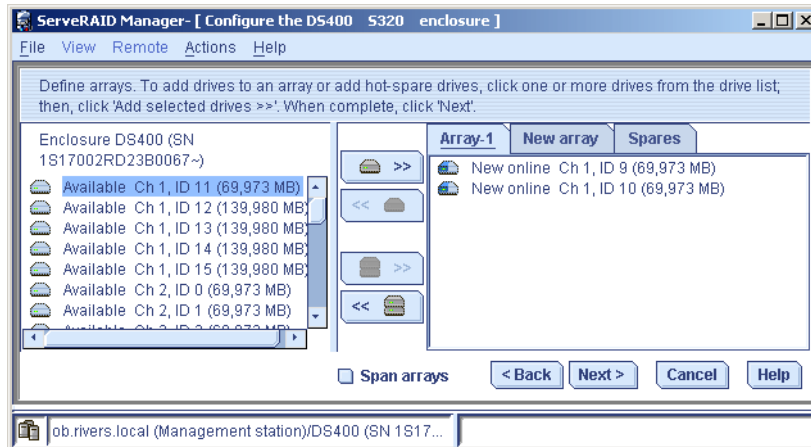

Figure 4-90 Array-1 with two drives
5. The selected drives will move from the left panel to the right panel. The tab named **New array** will change to **Array-1** and a new tab with name **New array** is created. See Figure 4-90 on page 134.